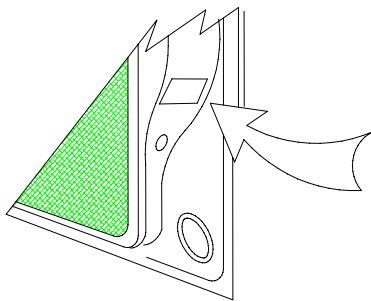

Figure 7: Affix Load rating Label.
11. Position the load rating label (item 21) on the inside of driver's door column. Refer to Figure 7.